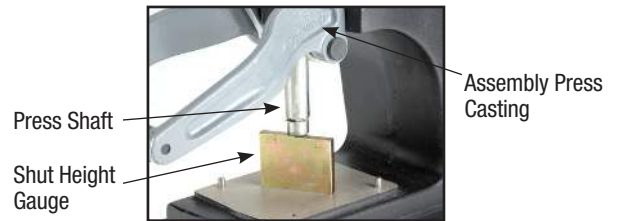

Figure 2
3.1 Place the shut height gauge 3436-1D across the base of the assembly press. Lower the handle of the press until the handle casting makes contact with the press casting. (See Figure 2)